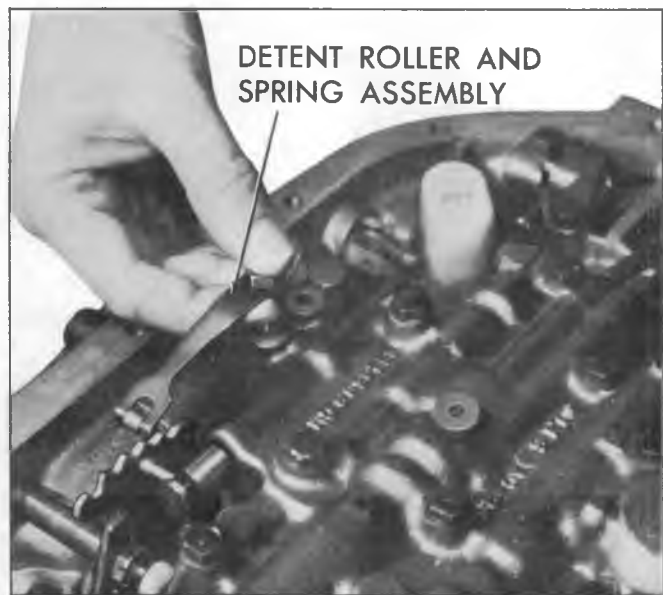

Fig. 9T--Removing Detent Roller and Spring Assembly
3. Remove control valve body attaching screws and detent roller and spring assembly (fig. 9T).